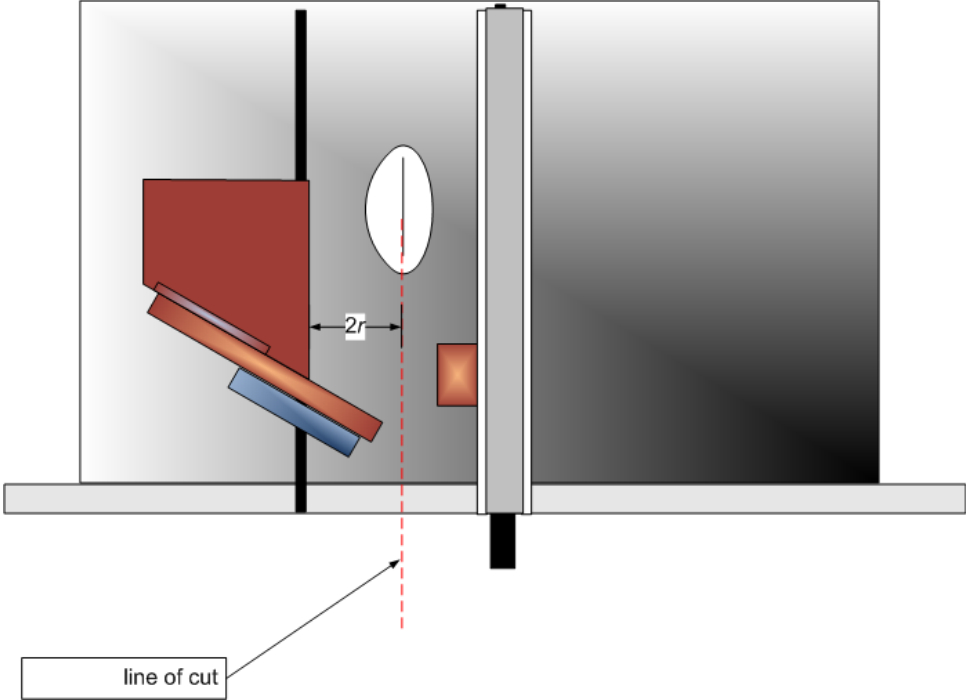
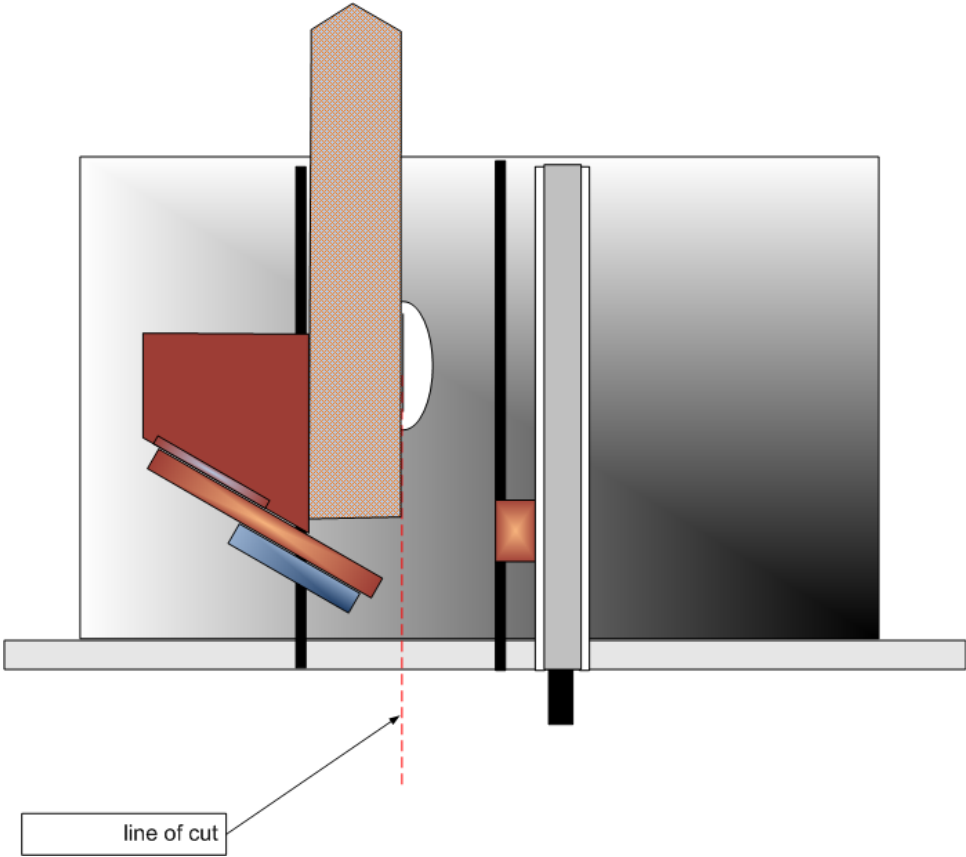

Figure 8. Saw Setup For Third Cut
Figure 9. Using The Stock To Setup For Third Cut
Step 5. While leaving the miter gauge angle unchanged, place and clamp the 60° stop jig to the miter fence at a distance $2r$ from the saw cut line, as in Fig. 8. This can be done using the stock since it's width is $2r$, as shown in Fig. 9. Move the saw fence away from the saw blade, or remove it altogether, so it does not interfere with the stock on subsequent cuts.